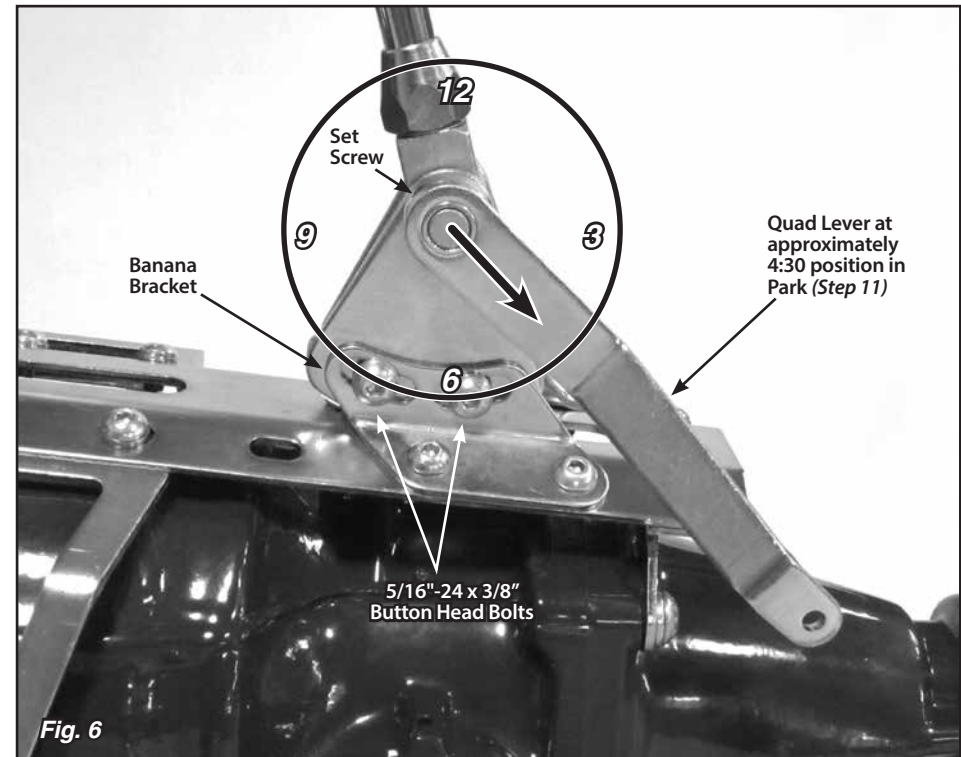

Fig. 6
Step 10: Make sure the two 5/16"-24 x 3/8" button head bolts that attach the left side banana bracket to the shifter assembly (in the curved, slotted holes) are tight. Before tightening the shifter assembly down to the main plate, move the shifter lever through all the gear positions. Make sure that the shifter lever and knob do not come in contact with the dash or the seat. The shifter assembly can be tilted forward or backward if needed by loosening the 5/16"-24 x 3/8" button head bolts in the curved, slotted holes in the left side banana bracket. **Fig. 6**
Step 11: Put the shifter lever into the Park position and check the position of the quad lever. It will need to be pointing to about the 4:30 position. If it is not, loosen the set screw in the top of the quad lever with a 1/8" Allen wrench and slide the quad lever off of the shaft. Reposition it on the shaft at approximately the 4:30 position, and retighten the set screw. **Fig. 6**
Double check to make sure that the bolts connecting the **left** side banana bracket to the shifter assembly are tight. **Fig. 6**